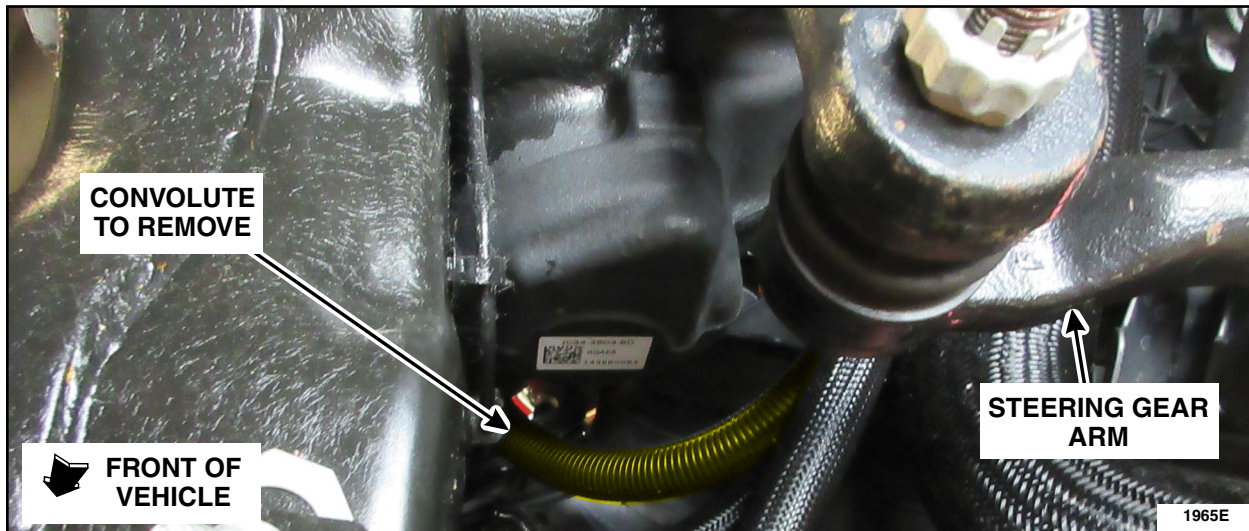

FIGURE 5
5. Remove the lower convolute on the power steering pump to Hydro-Boost pressure hose. See Figure 5.